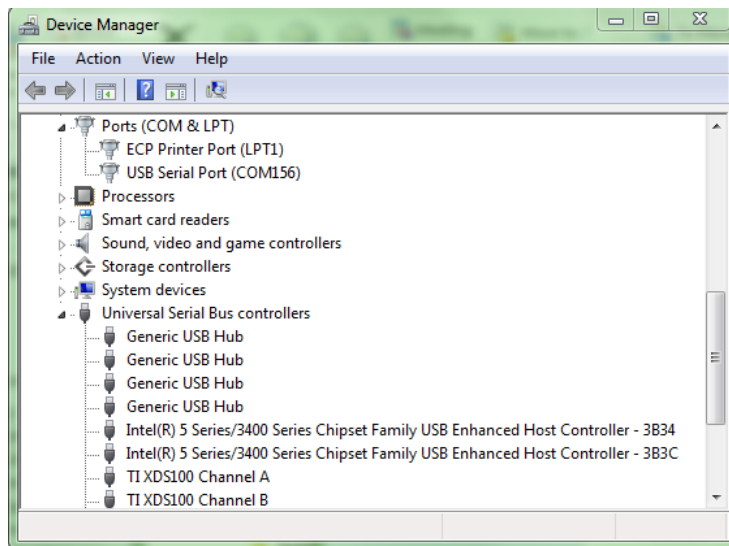

Figure 4 - Windows Device Manager
3. Verify the connection to the FTDI XDS100v2 emulator by checking the Windows Device Manager for Ports: USB Serial Port (COMxxx) and TI XDS100 Channel A and B (Figure 4)